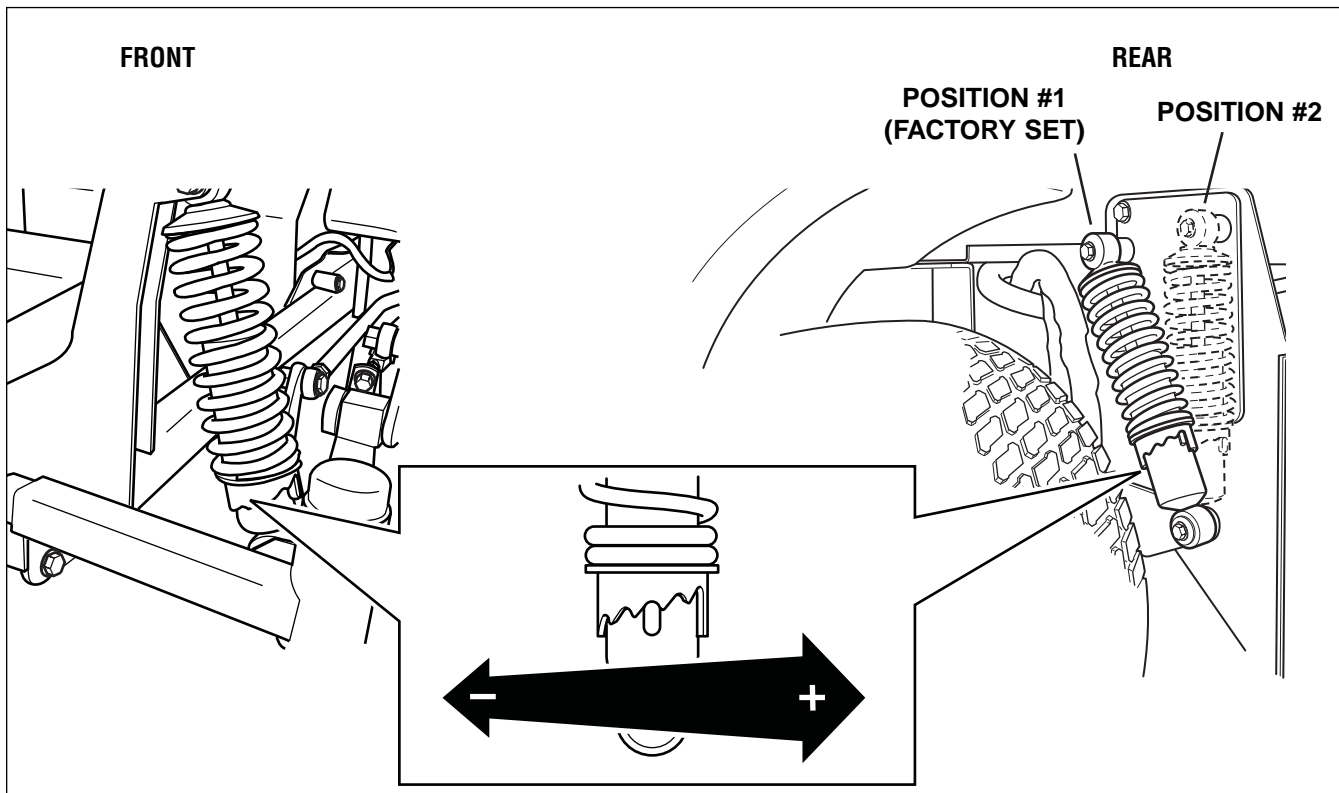

Figure 35. Suspension Adjustment
2. See Figure 35. Using the supplied spanner wrench (p/n 5022853), insert the tip of the wrench into the notch in the pre-load adjuster. While holding the wrench with both hands, turn CLOCKWISE to decrease the pre-load, turn COUNTER-CLOCKWISE to increase the pre-load. Make sure that for each pair of shocks that the left-hand and right-hand are set to the same amount of pre-load.
4. Remove the upper shock mounting hardware and pivot the shock to the position #2 (see Figure 35). Adjust the jack to align the shock mounts to the shocks.